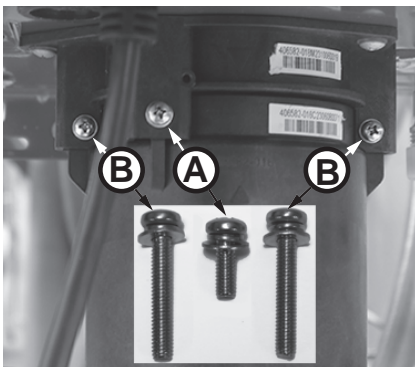

Figure 171 - Identify cartridge screws
- 6 Locate the three (3) screws securing the X3®/Bypass cartridge as shown in Figure 171. Remove the **(A)** M4-12mm screw and the two **(B)** M4-25mm screws from cartridge. Place screws aside in a safe place for reinstallation.